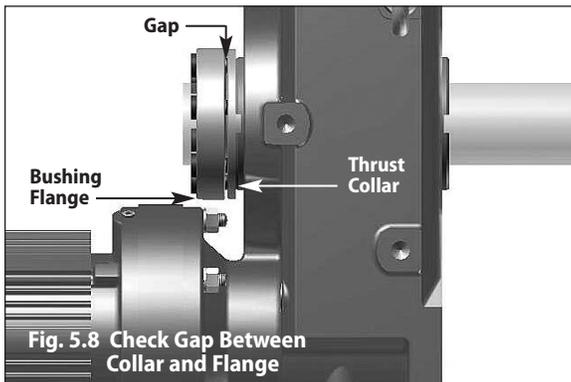

Fig. 5.8 Check Gap Between Collar and Flange
Step 2 – Check the Taper-Grip® Bushing to assure that there is a gap between the thrust collar and the bushing flange. If no gap exists, unit removal may be difficult (see Fig 5.8).